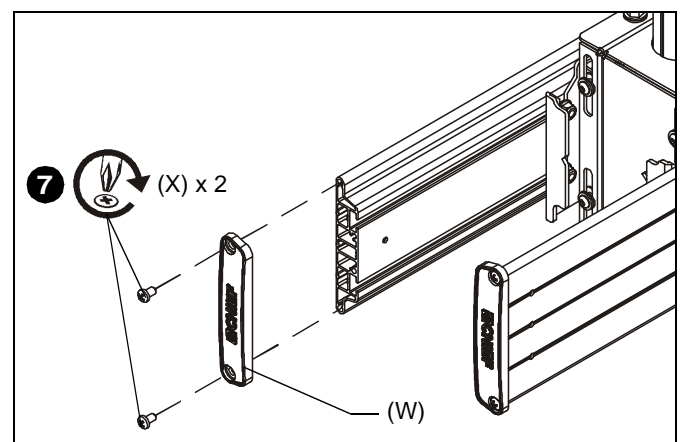

Figure 4
6. Repeat for remaining add-on head (S).
7. Add one end cap (W) to each end of mounting rail (KK), and fasten in place using two 1/4-20 x 1/2" Phillips self-tapping screws (X) for each end cap. (See Figure 4)